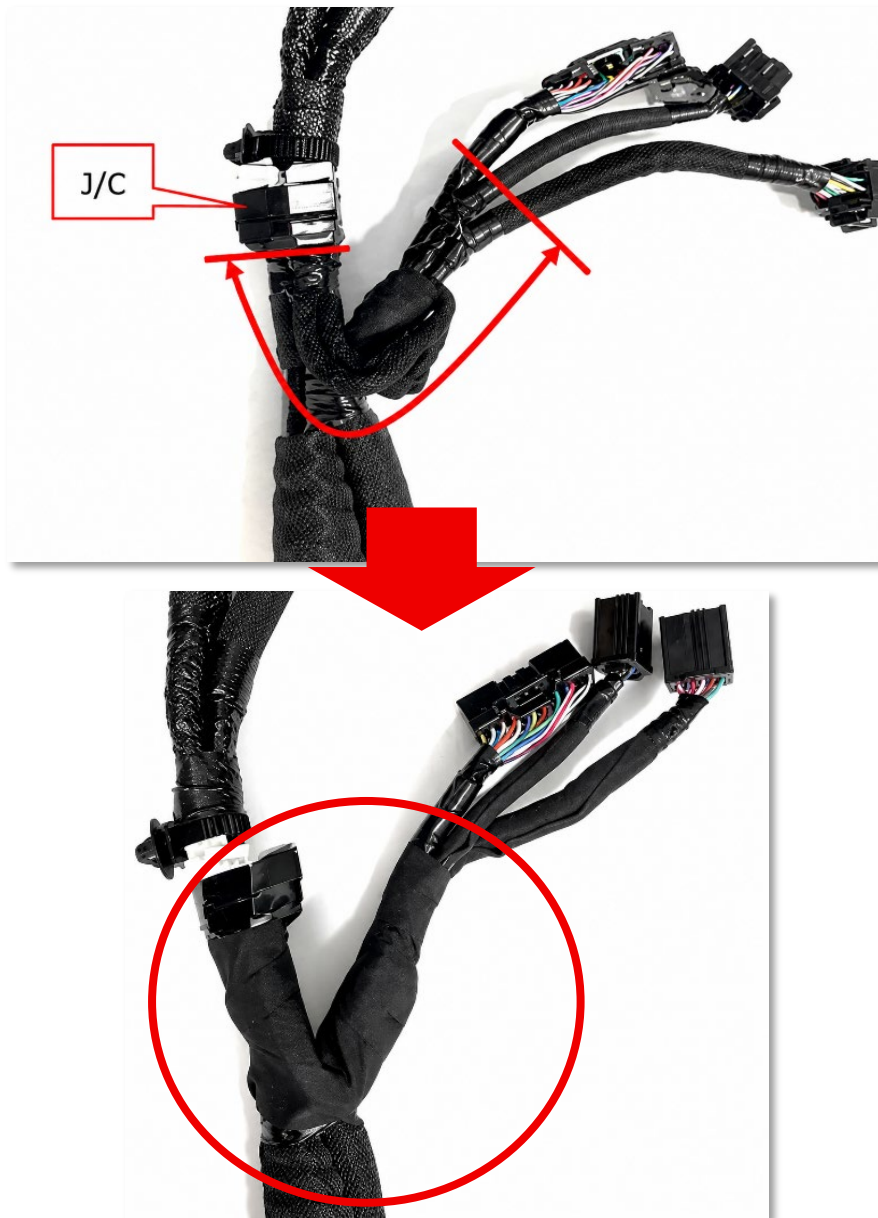

Figure 46
51. Location [B.]: Wrap the Tesa tape where the I/O Controller harness branch meets the BCM harness. (See Figure 46.)
NOTE: The Joint Connector (J/C) shown below (Figure 46.) is not installed on vehicles that are not equipped with ADAS. Apply Tesa tape to the wiring harness in the same configuration as shown below.